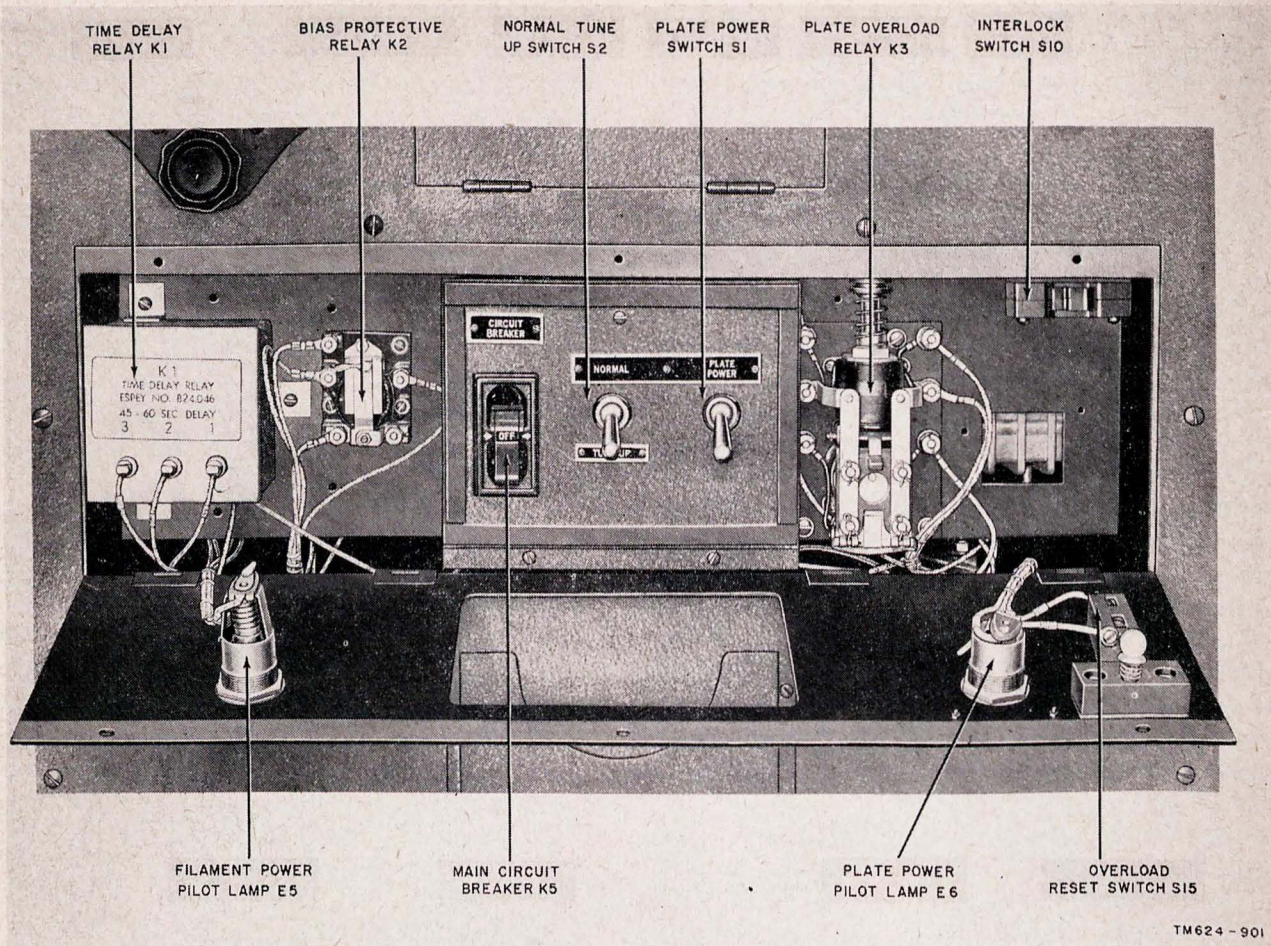

Figure 85. Amplifier AM-141(\*)/MRC, relay panel.
- (1) *Time-delay switch K1.* Switch K1 is mounted on the left side of the left relay mounting bracket behind the relay access door of the front panel (fig. 85). This and other relays may be tested without removing them from the amplifier. Time-delay switch S1 is a complete assembly, mounted in a hermetically sealed metal case. No adjustments are possible without destroying the seal. Normally, the unit should be replaced with a new one if it is found defective. To test the timing, close CIRCUIT BREAKER K5; observe the time required for a 115-volt lamp to light (the lamp should be placed across terminals 2 and 3). The lamp should light after a time interval of 45 to 60 seconds. Refer to paragraph 121c for the principle of operation of time-delay switch K1.
- (2) *Bias protective relay K2* (figs. 85 and 86). Relay K2 may be tested and adjusted in the amplifier and observed through the open relay panel access door.
(3) *Overload relay K3* (figs. 85 and 86).